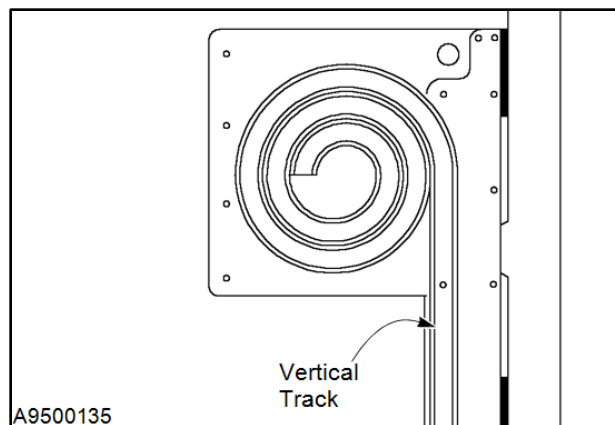

Figure 30
5. Inspect the hardware used to attach the vertical track sections to the left and right side columns. Tighten the hardware as required. Replace any missing or damaged hardware. (See Figure 30.)